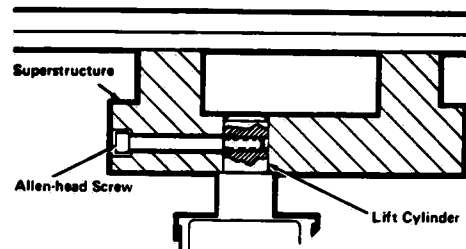

Figure 5-2. PUMP CYLINDER.
6. Remove the allen-head screw securing the lift cylinder to the tabletop (Figure 5-2).